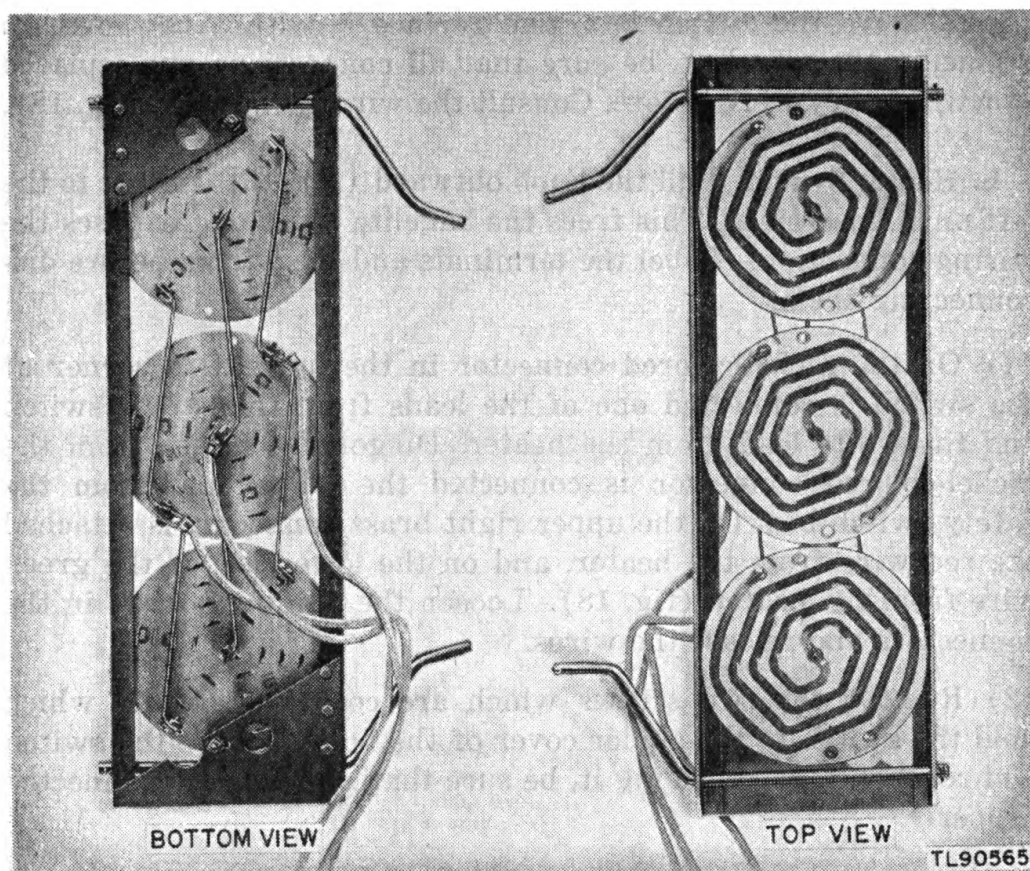

Figure 14. Heating assembly, top and bottom view.
(1) Remove the handhole cover from the drum end nearest the snap switch. The three bricks are visible through the opening thus uncovered. These bricks each contain two heater coils, connected at a center tap (fig. 14).
(2) Turn the safety switch to ON and the heater switch to HIGH. Allow a few minutes for the heater coils to get hot. As the drum rotates and the handhole reaches an upper position, see if all the coils are glowing. If one or more of the coils fail to reach a glowing temperature, it indicates that the coil is burned out and must be replaced.